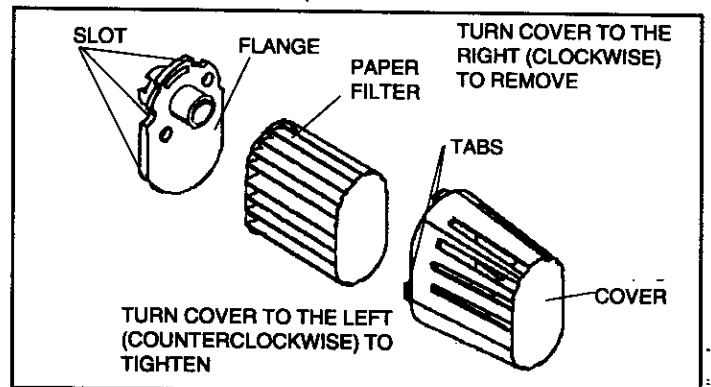

Figure 6
DISCONNECT SPARK PLUG WIRE FROM SPARK PLUG AND ATTACH IT TO RETAINING POST (see Figure 6 on Page 3).
③ AIR CLEANER (see Figure 6):